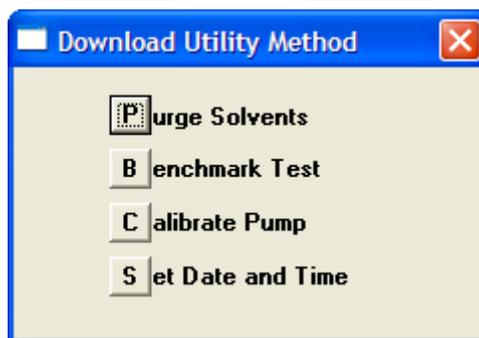

Figure 54. Download Utility Method Window
- 2 Click **one of the four buttons** (see Figure 54) to select an AutoTrace utility.